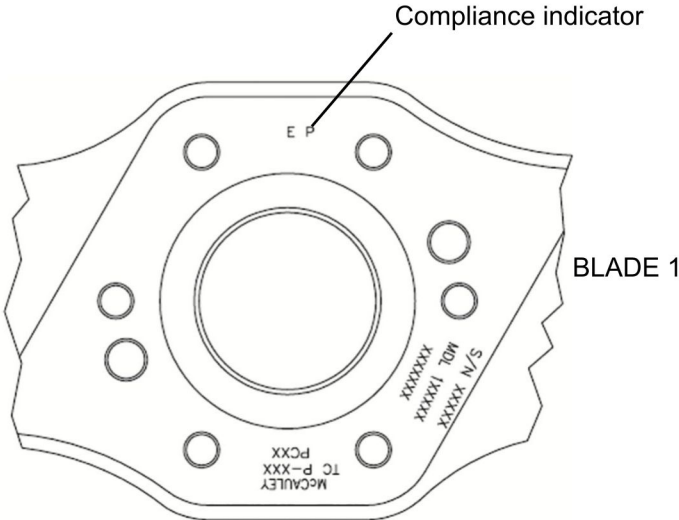

Figure 2. (Sheet 1)
- (5) Residual penetrant and developer must be removed prior to recoating using a non-oil based solvent or vapor de-greasing. Verify complete removal by inspecting under blacklight.
- (6) All relevant indications found during this inspection must reported to McCauley Propeller Systems. Do not reinstall any propeller showing relevant indications.
- (7) (Refer to Figure 2, Sheet 1.) Stamp propeller hub with compliance indicator "P" at initial inspection using 0.125 inch (3.18 mm) round bottom steel stamp. Stamp the applicable number after the letter "P" to indicate ("2") and additional ("3", "4" etc.) inspections. Compliance indicator is to be stamped 180° from "McCauley" stamping. The propeller may have previous compliance indicator "E" stamped on the hub, stamp new indicator after "E", if present.
- (8) Propellers must be chemically re-coated per MIL-C-5541 (Alodine) or MIL-A-8625 (Anodize) prior to painting. Paint per McCauley Manual, 730720.